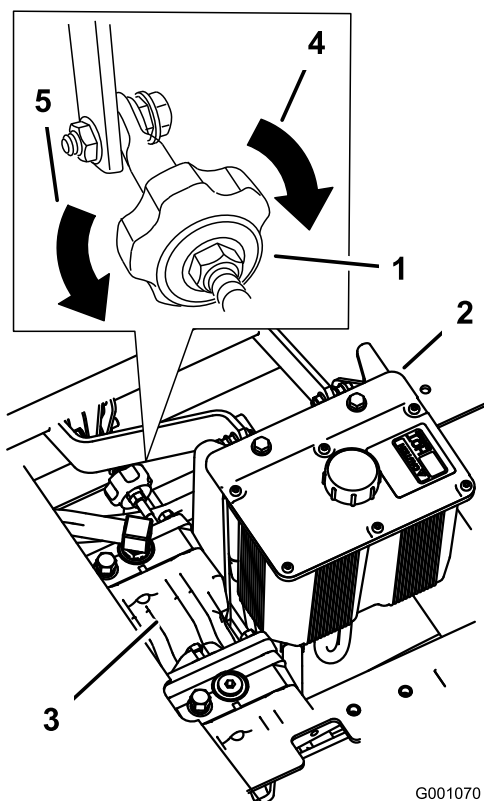

Figure 72
2. Adjust the pump rod length by rotating the knob, in the appropriate direction, until the wheel is still or slightly creeping in reverse (Figure 72).